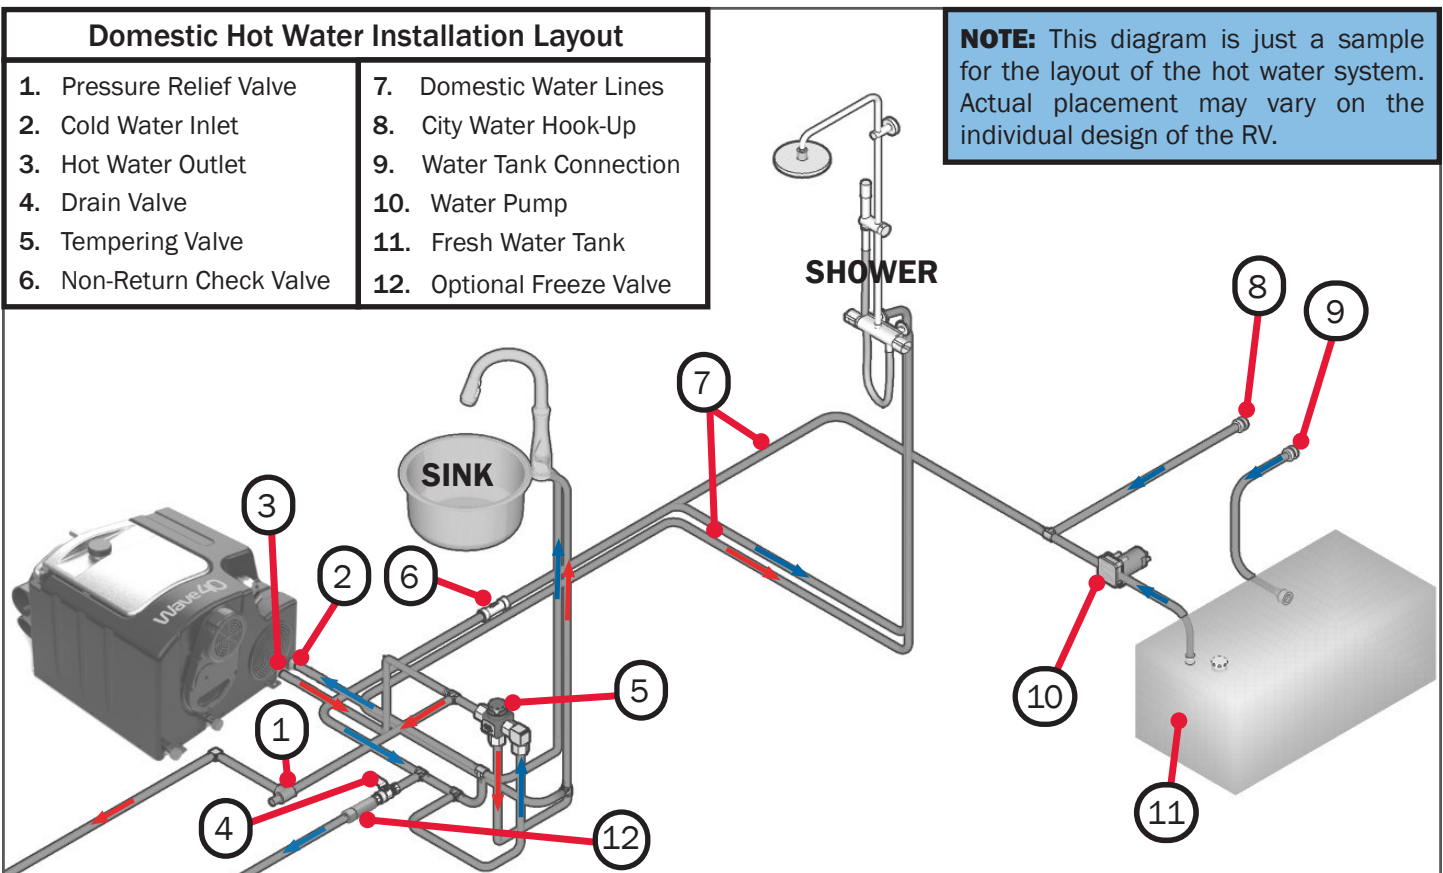

Figure 30
- The non-return valve (#6 Figure 30) must be installed in the proper direction: